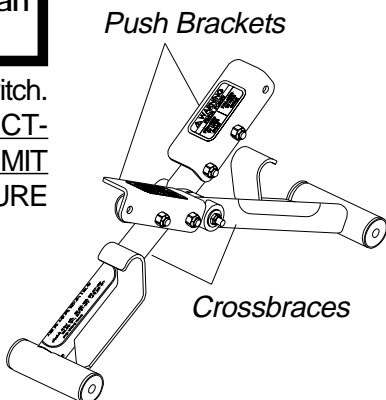

FIGURE 2 - TRANSPORTING RANGER II FWD - CAPTAIN'S SEATS
**Unfolding/Folding - Captain's Seat (FIGURE 2)**
2. Assemble the wheelchair. Refer to FIGURE 2.
4. Remove the batteries and footrests/legrests/footboard plate from the wheelchair. Refer to FIGURE 2.